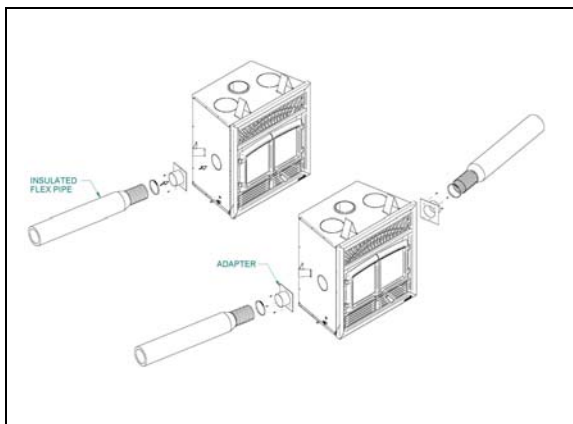

Figure 24
- A) Remove the knock outs at the back and/or the side of the fireplace and cut the insulation around the hole. Fix the adapter into place with screws. You can use more than one outlet on the fireplace (figure 24);